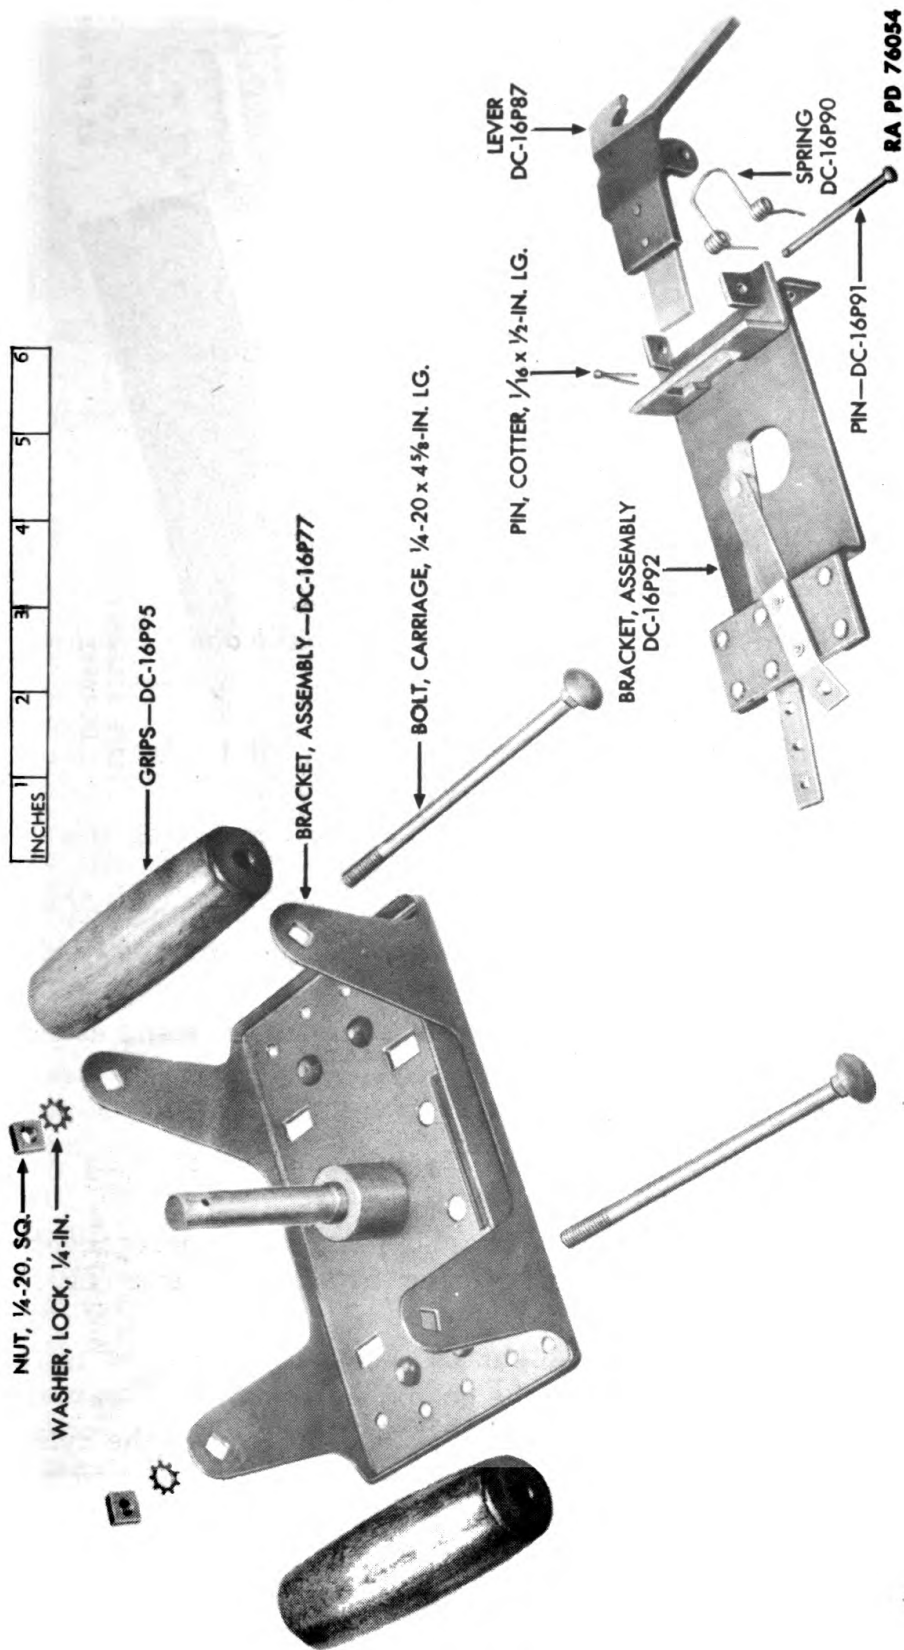
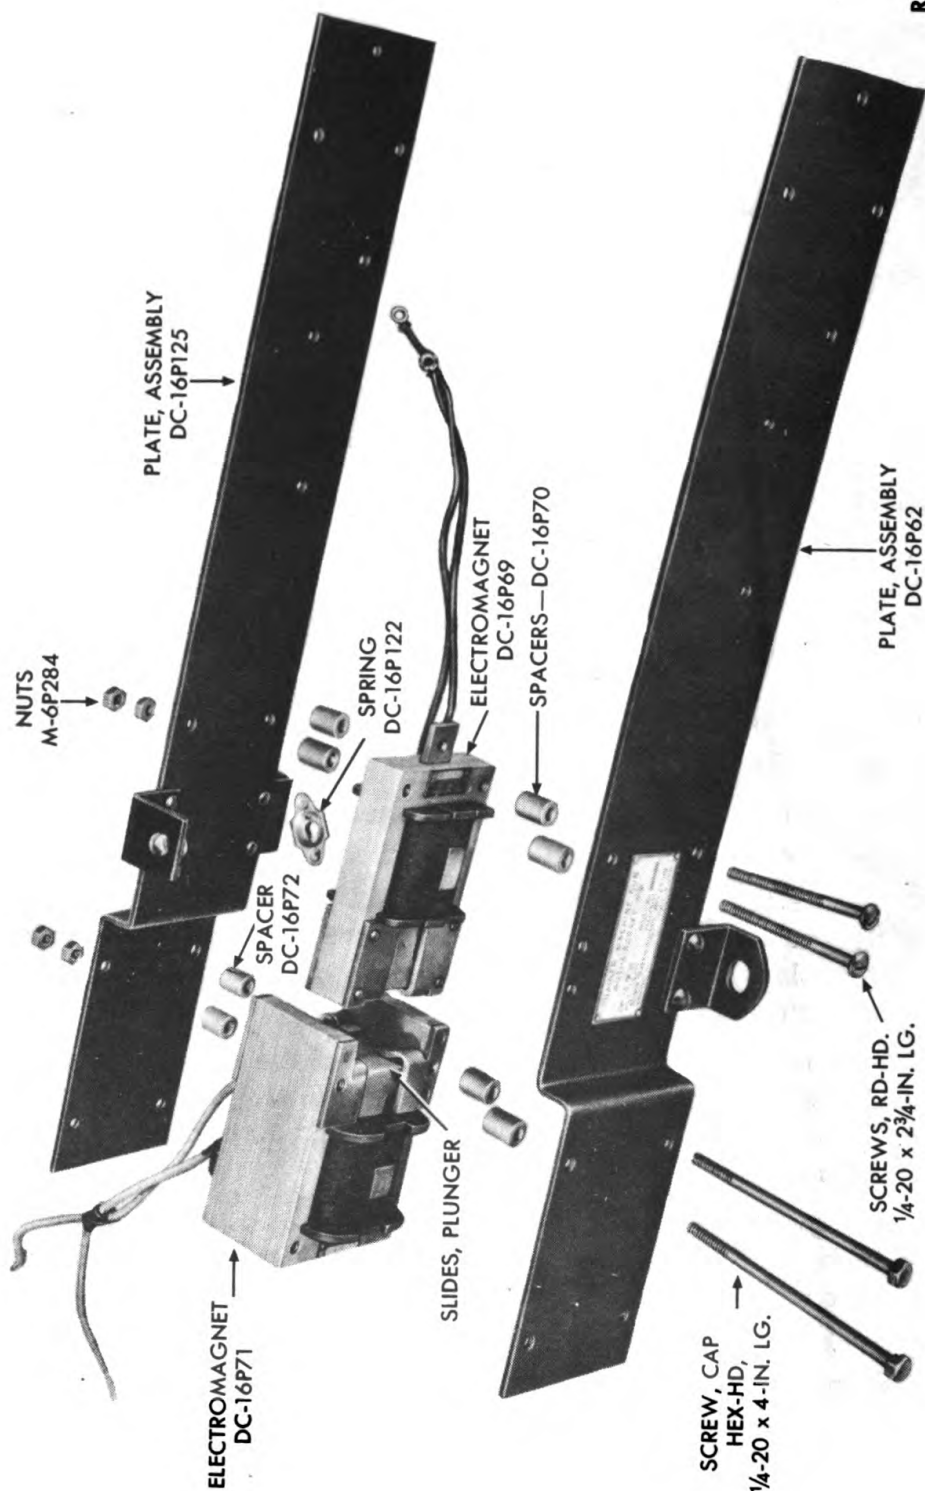

Figure 118 — Handle Bracket and Switch Bracket — Parts
Figure 119 — Electromagnets and Side Plates
(20) Pull the back plate assembly (fig. 117) out of the slots in the handle bracket to disassemble the gun handle assembly and expose the large recoil spring. Parts of brackets are shown in figure 118.
(21) Disconnect the two lead wires of the recoil electromagnet.
(22) Remove the nuts (fig. 119) and pull out the cap screws holding the recoil electromagnet in position.
(23) Remove the recoil electromagnet through the bottom of the space between the side plates (fig. 119).